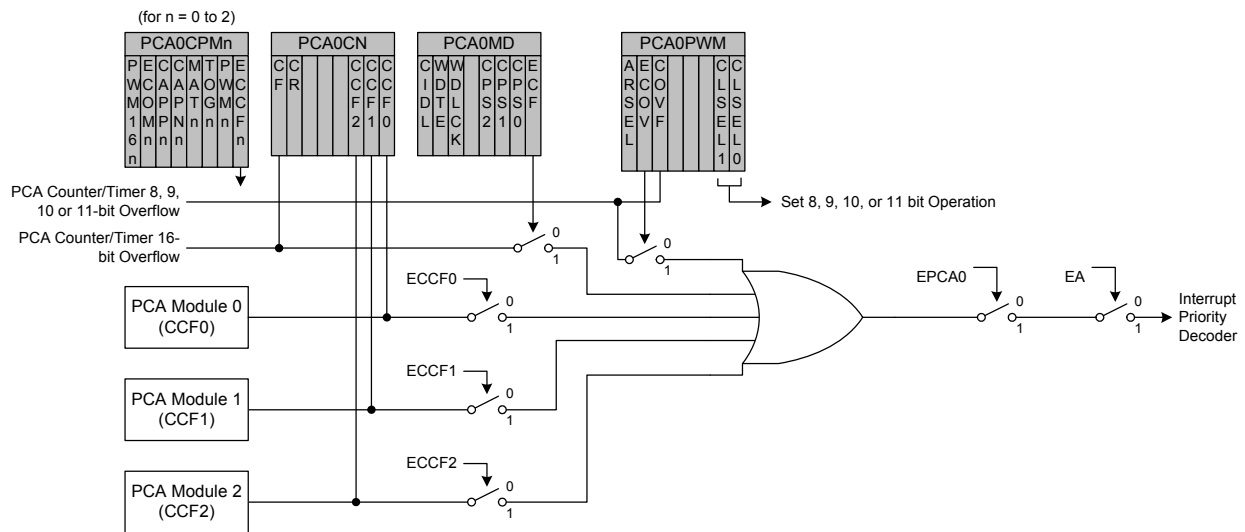

Figure 32.3. PCA Interrupt Block Diagram
Figure 32.3 shows a diagram of the PCA interrupt tree. There are five independent event flags that can be used to generate a PCA0 interrupt. They are: the main PCA counter overflow flag (CF), which is set upon a 16-bit overflow of the PCA0 counter, an intermediate overflow flag (COVF), which can be set on an overflow from the 8th, 9th, 10th, or 11th bit of the PCA0 counter, and the individual flags for each PCA channel (CCF0, CCF1, and CCF2), which are set according to the operation mode of that module. These event flags are always set when the trigger condition occurs. Each of these flags can be individually selected to generate a PCA0 interrupt, using the corresponding interrupt enable flag (ECF for CF, ECOV for COVF, and ECCFn for each CCFn). PCA0 interrupts must be globally enabled before any individual interrupt sources are recognized by the processor. PCA0 interrupts are globally enabled by setting the EA bit and the EPCA0 bit to logic 1.